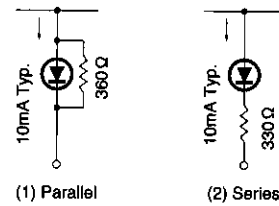

Fig. 3
The response time (attack and release time) can be changed by varying the values of  $C_1$  and  $C_2$ .  $C_2$  is a coupling capacitor, and the potentiometer VR varies the input level. Input the voltage level that you desire for the center point, and adjust the potentiometer so that the third LED ( $V_{C3}$ ) lights. To reduce the LED current, connect a resistor either in parallel (Fig. 3 (1)) or in series (Fig. 3 (2)) with the LED. If a resistor is connected in series with the LED, the LED current will change if the supply voltage fluctuates.